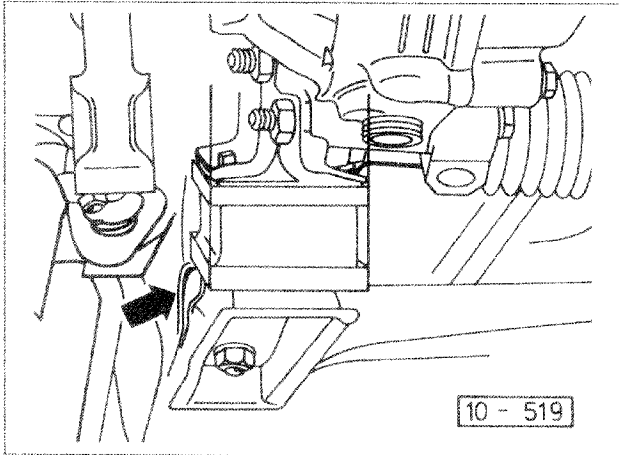
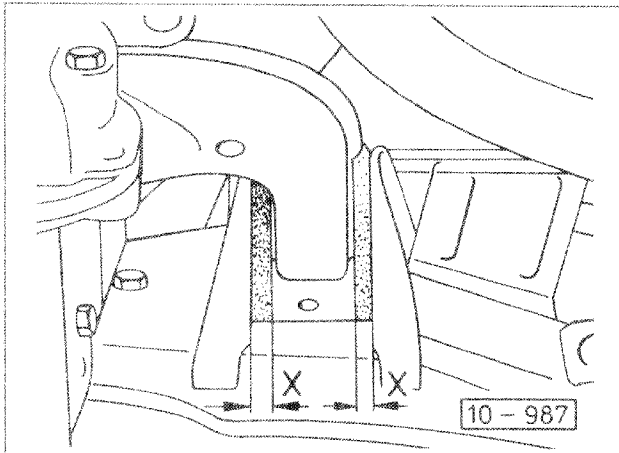

Fig. 5-8. Rear transaxle mount correctly aligned (lines).
Fig. 5-9. Correct alignment (lines) of left and right engine and transaxle mounts.
- With the car sitting on the ground, move the engine and transaxle assembly until the rear transaxle mount is straight as shown in Fig. 5-8, and the left and right engine and transaxle mounts are centered as shown in Fig. 5-9. Then torque the rear mount nuts and the left and right center bolts to 35 Nm (26 ft. lb.). Recheck the mounts to make sure that there is no twisting or strain.